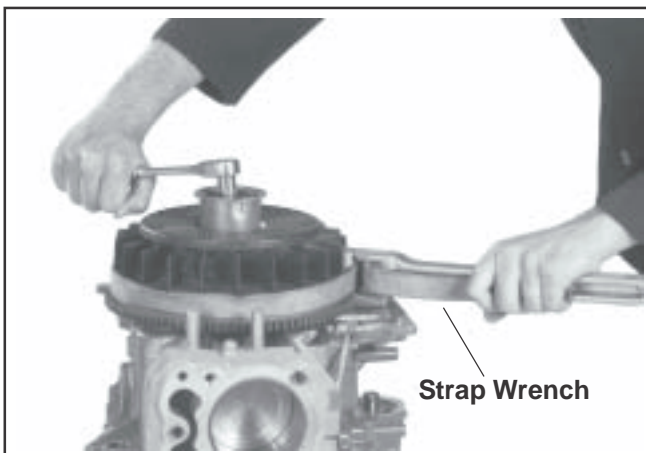

Figure 9-37. Removing Flywheel Retaining Screw and Drive Cup.
1. Remove the hex flange screw, plain washer, and recoil starter drive cup\*. See Figure 9-37.